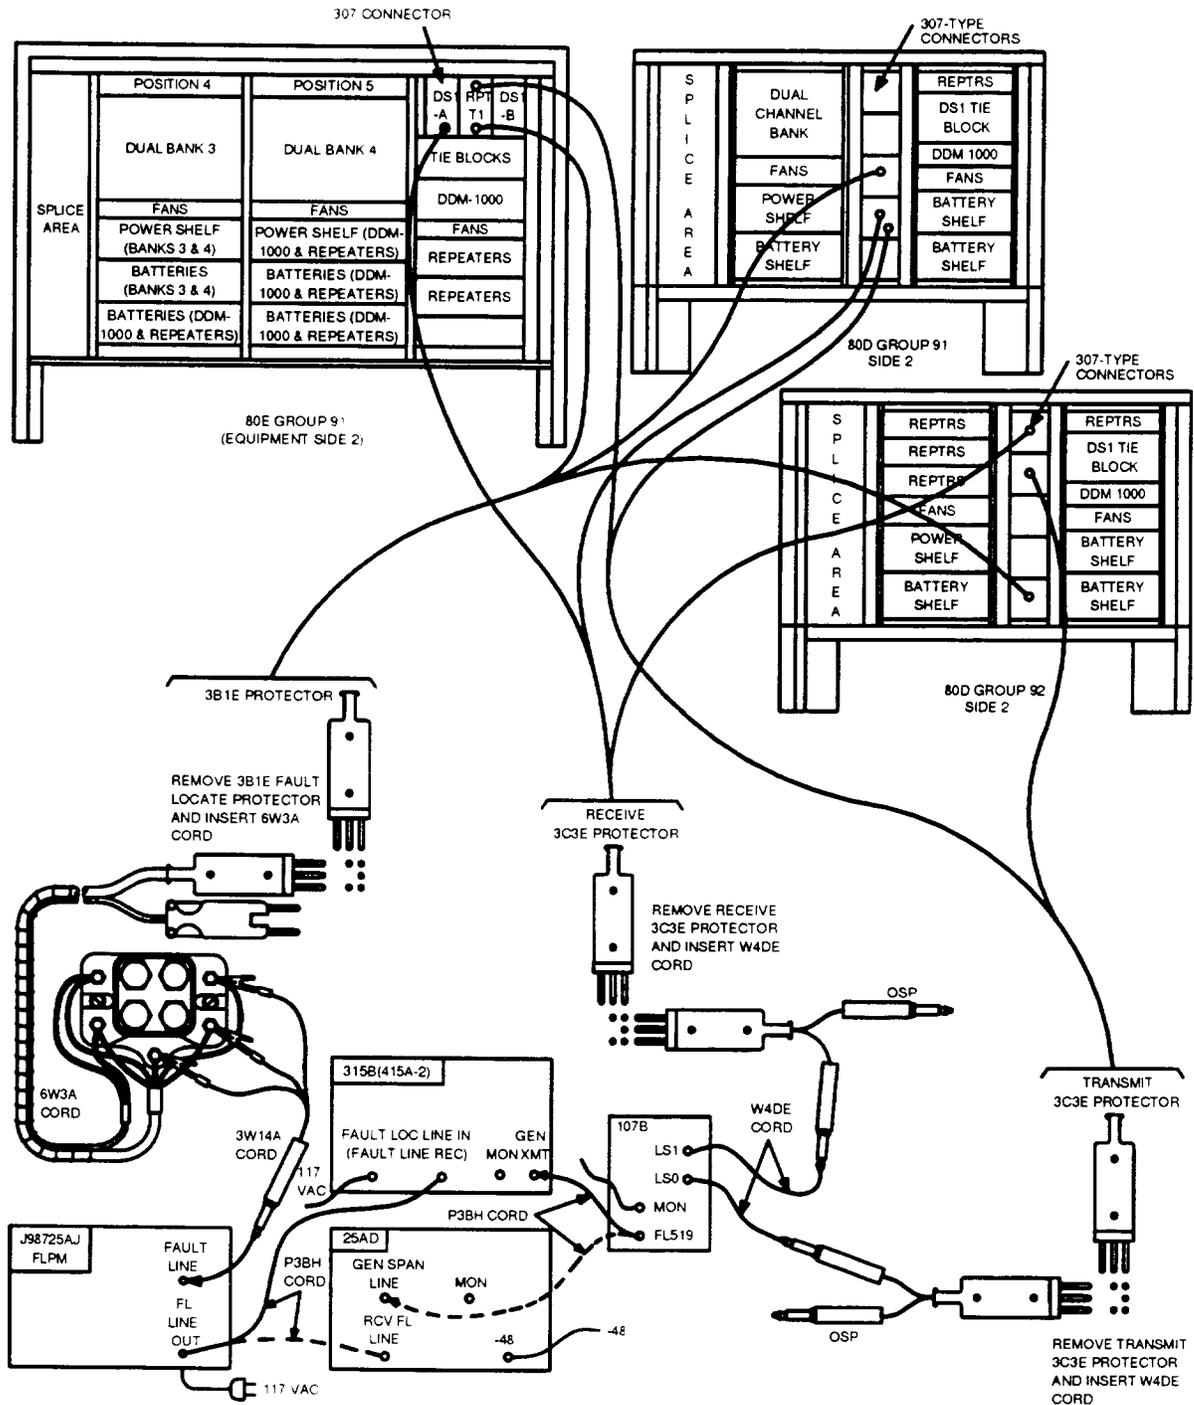

Figure 6 — Typical Fault-Locating Equipment Test Connections For T1 Line Access
9. Make fault-locating test equipment connections to protector positions of 307 block on 80-type cabinet frame side 2 as shown in Figure 6. Refer to Table A, B, or C for protector appearances. Replace fault locate pair 3B1E protector with 6W3A test cord and connect 3W14A cord to FLPM. Remove 3C3E transmit pair protector and connect output of the 107B test set. Remove 3C3E receive pair protector and connect input of the 107B test set. Then continue with Step 11.